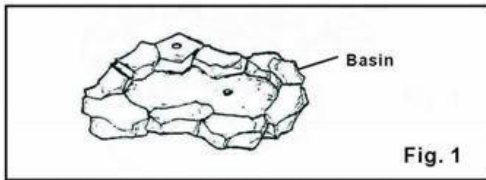

Fig. 1
3. Place the Basin on the ground and insert the hard PVC tube into the hole on the top of the Basin as shown in figure 1.